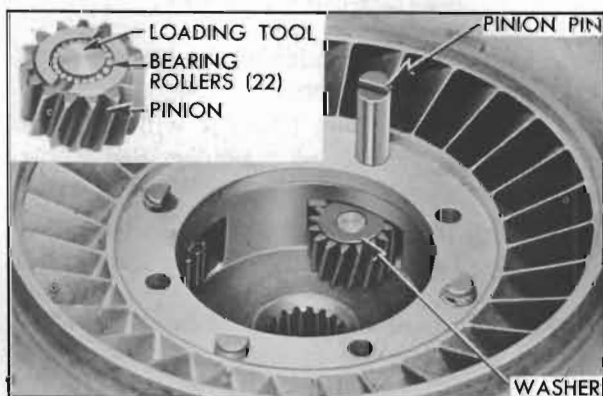

Figure 5-58—Installing Pinion in Carrier
**NOTE:** A loading tool made locally of steel rod  $\frac{3}{8}$ " in diameter by  $1\frac{1}{16}$ " long will simplify loading and installation of pinion. See Figure 5-58.
(b) Place assembled pinion in carrier and install a pinion pin with notched end up. After loading tool is pushed out of carrier, slide a block under pinion pin to hold it in place. Turn all pins so that notches face center of carrier. See Figure 5-58.